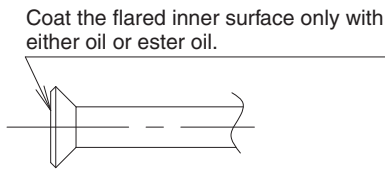

Fig. 20
- When making a flare connection, coat the flared inner surface only with either oil or ester oil. (Refer to Fig. 20) Then, turn the flare nut 3 to 4 times with your hand and screw in the nut.